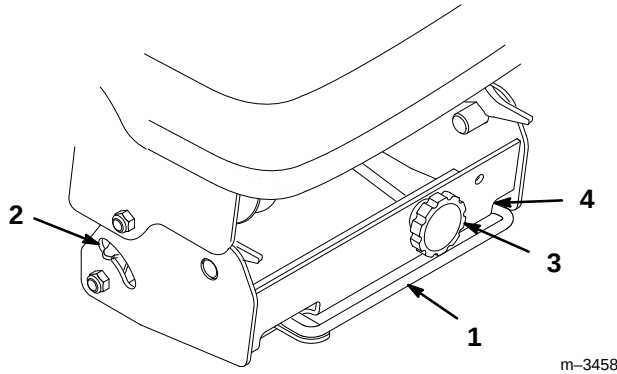

Figure 12
3. Release the belt tension release arm on the pulley box housing and swing it out toward you (Fig. 12).
6. Loop the other end of the belt over the drive pulley of the mower. Additional belt slack can be obtained (if needed) by turning the belt tension adjustment knob (Fig. 12).
- C. If the tension indicators are not in the same position, release the belt tension, turn the adjustment knob and repeat steps A and B until the indicators move to the same position (Fig. 12).
- D. Once the indicators are in the same position, swing the tension release arm into the pulley box and seat it by moving it into the position shown in Figure 12.